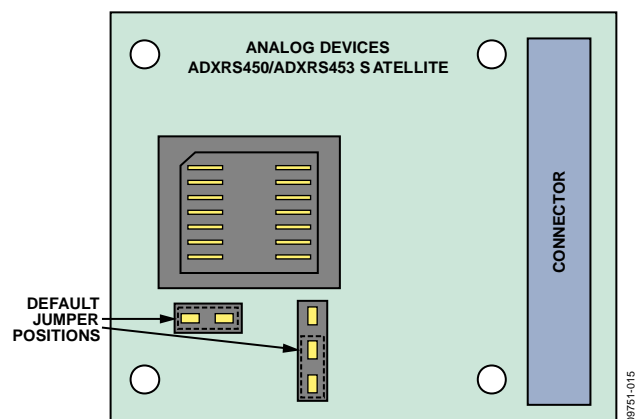

Figure 16. Default Jumper Positions
4. Ensure that the jumpers on the ADXRS450/ADXRS453 satellite are in their default configuration, as shown in Figure 16. This sets up the board to use the on-board boost converter to generate the required high voltage supply for the device. For more information on using alternate high voltage supplies, see the ADXRS450 and ADXRS453 data sheets and the Alternate External High Voltage Supply section of this guide.